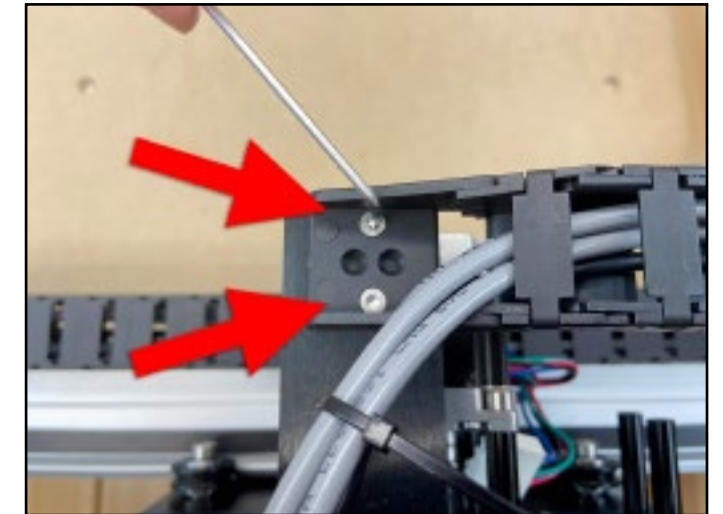

Figure 6-15
2. Curl the head of the drag chain up and towards the Z-Plus and rest it on top of the X-Axis drag chain head bracket. See **Figure 6-15**.
3. Use the 2mm hex key and two (2) M3x4mm flat head screws to secure the X-Axis drag chain to the head bracket. See **Figure 6-15**.